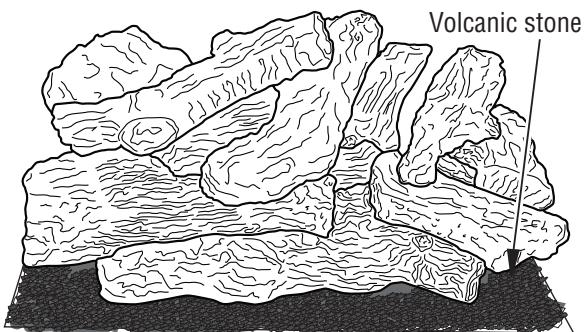

Figure 30 - Installing Volcanic stone
3. Place volcanic stone around base of burner. Make sure burner ports are not covered (see **Figure 30, Page 21**).